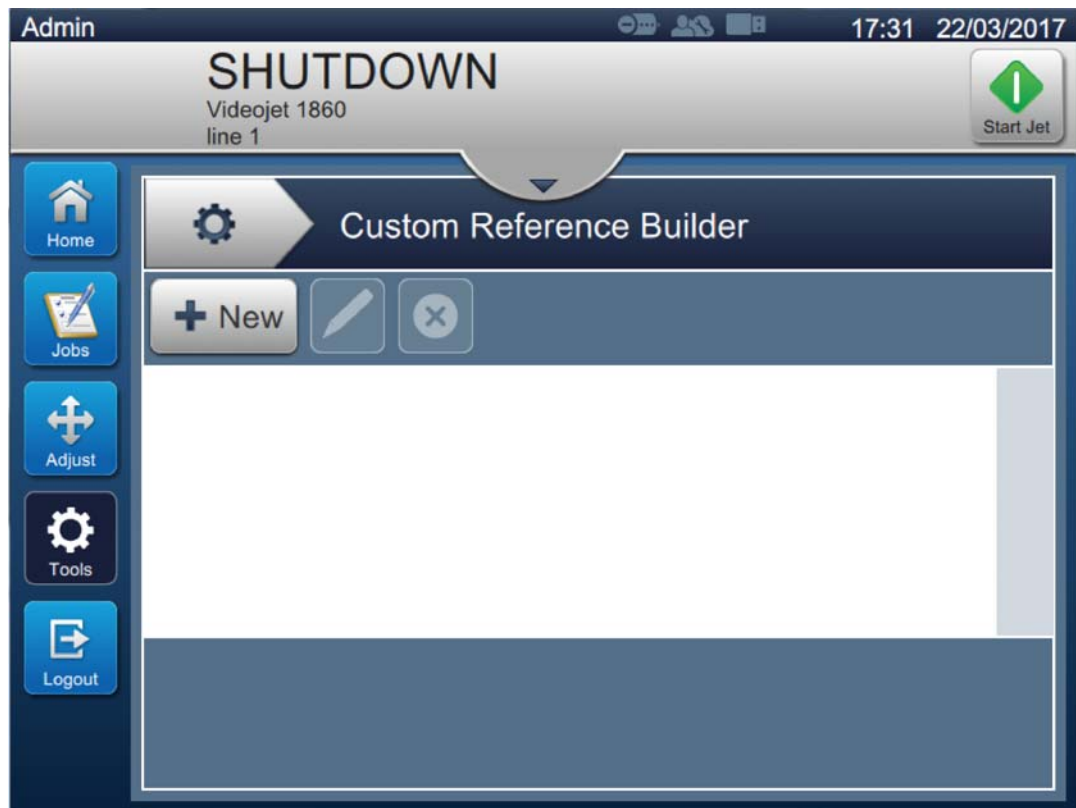

Figure 6-7: Custom Reference Builder
1. Touch the  button from the Tools screen. The Custom Reference Builder screen opens as shown in the Figure 6-7.
2. Touch the  button as shown in Figure 6-7 on page 6-13 to create a new custom field. The Reference Name screen opens.